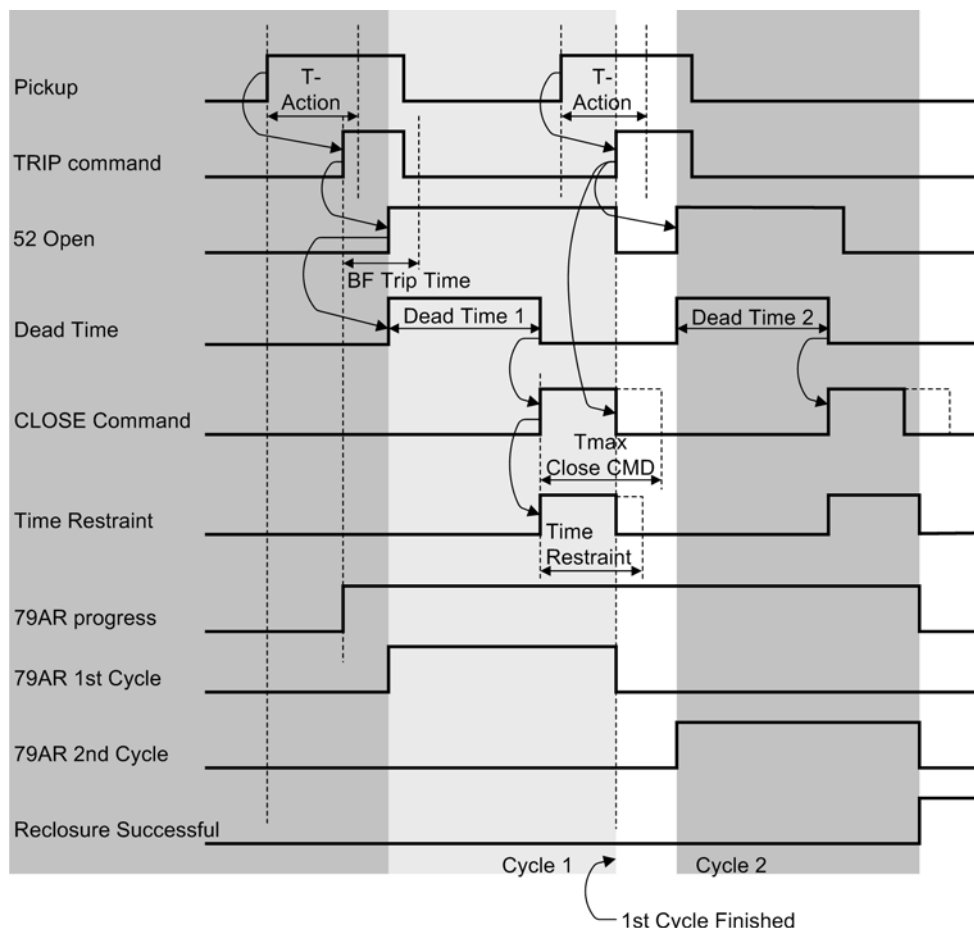

Figure 2-81 Timing diagram showing two reclosing shots, first cycle unsuccessful, second cycle successful
The 7SJ62/63/64 is equipped with three-pole, single-shot and multi-shot automatic reclosure (AR). Figure 2-81 shows an example of a timing diagram for a successful second reclosure.